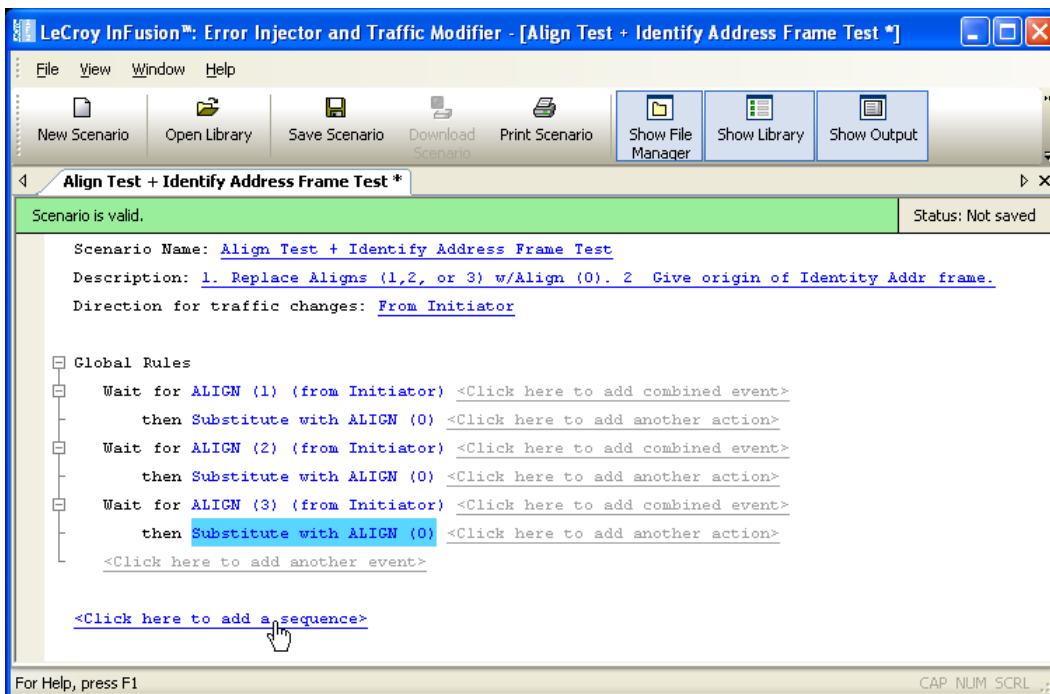

Figure 5.36 Example 7: Adding the First Sequence
Step 2 As in previous examples, create the Global Rules area as shown in Figure 5.36.